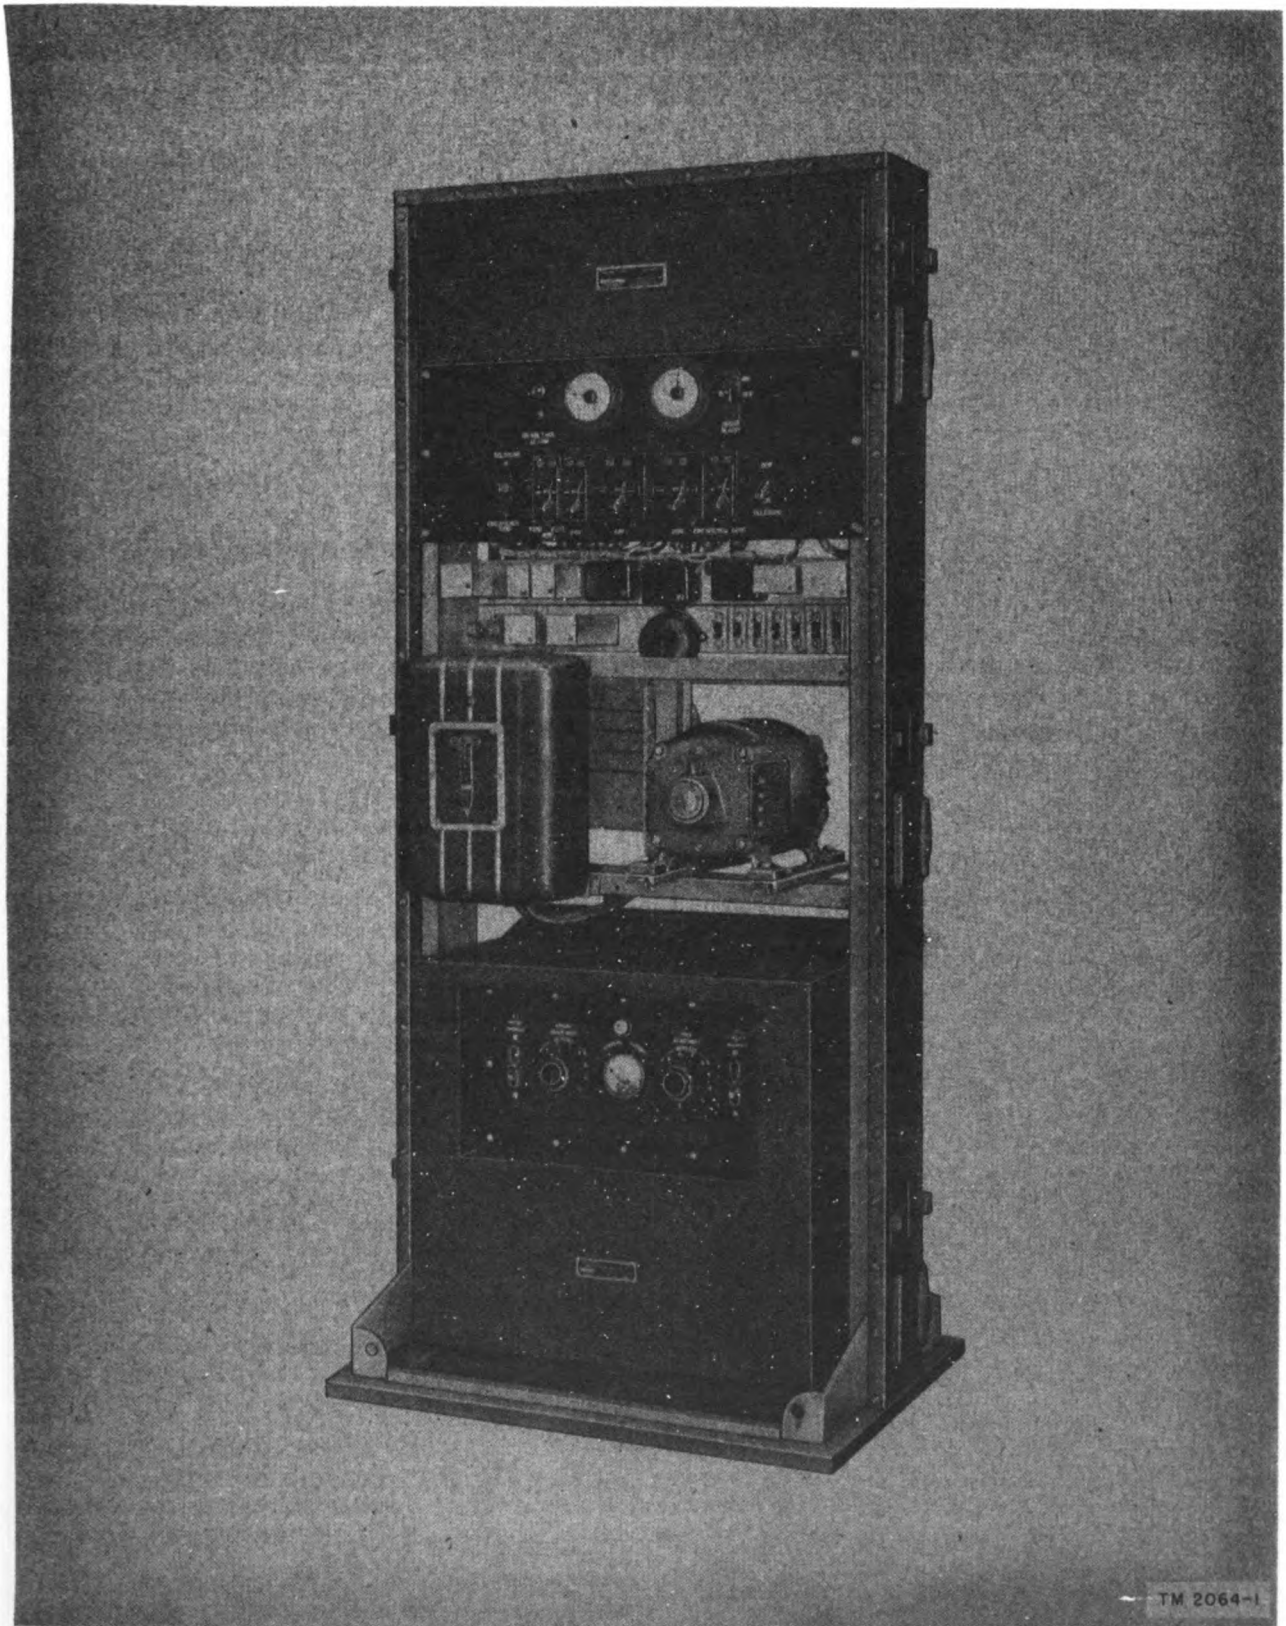

Figure 1. Panel BD-132.
This technical manual describes Panel BD-132 (fig. 1), a portable power control and alarm panel used with telephone central office sets. The manual includes essential data needed by personnel for the installation, operation, maintenance, and repair of the equipment.
a. This panel (fig. 1) is the point of protection, control, and distribution of power and ringing leads which supply a telephone central office. The panel is equipped with the necessary meters, switches, and other apparatus required to supply and control power needed for proper operation of such an office.